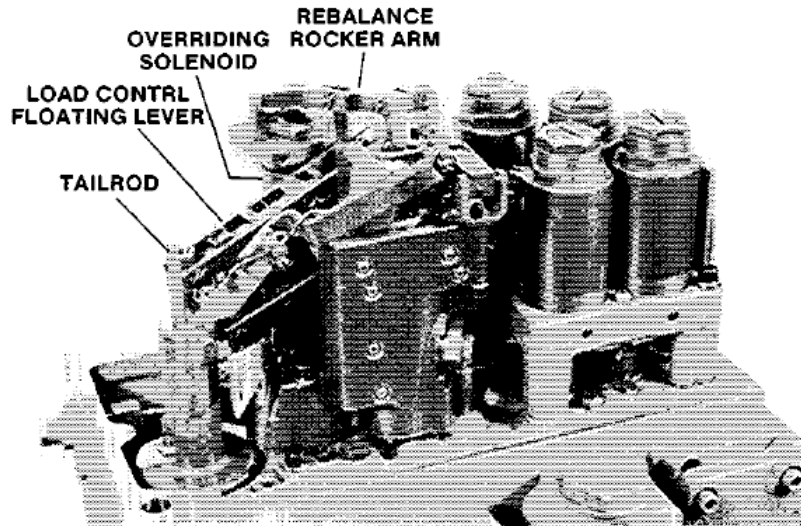

Figure 5-64. Lever and Linkage with Overriding Solenoid
39. If pressure-biased load control is present, assemble as shown in Figure 5-64.